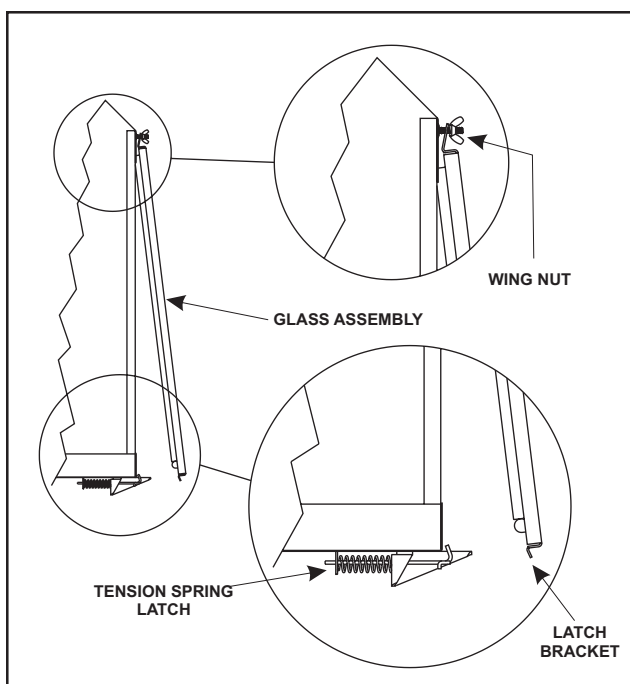

FIGURE 31
- Note carefully how the glass assembly is held in place. Release the two spring latches at the bottom of the glass door. Next, remove wing nuts from the top of the glass door. Carefully lift the glass up and out away from the appliance. See Figure 31.